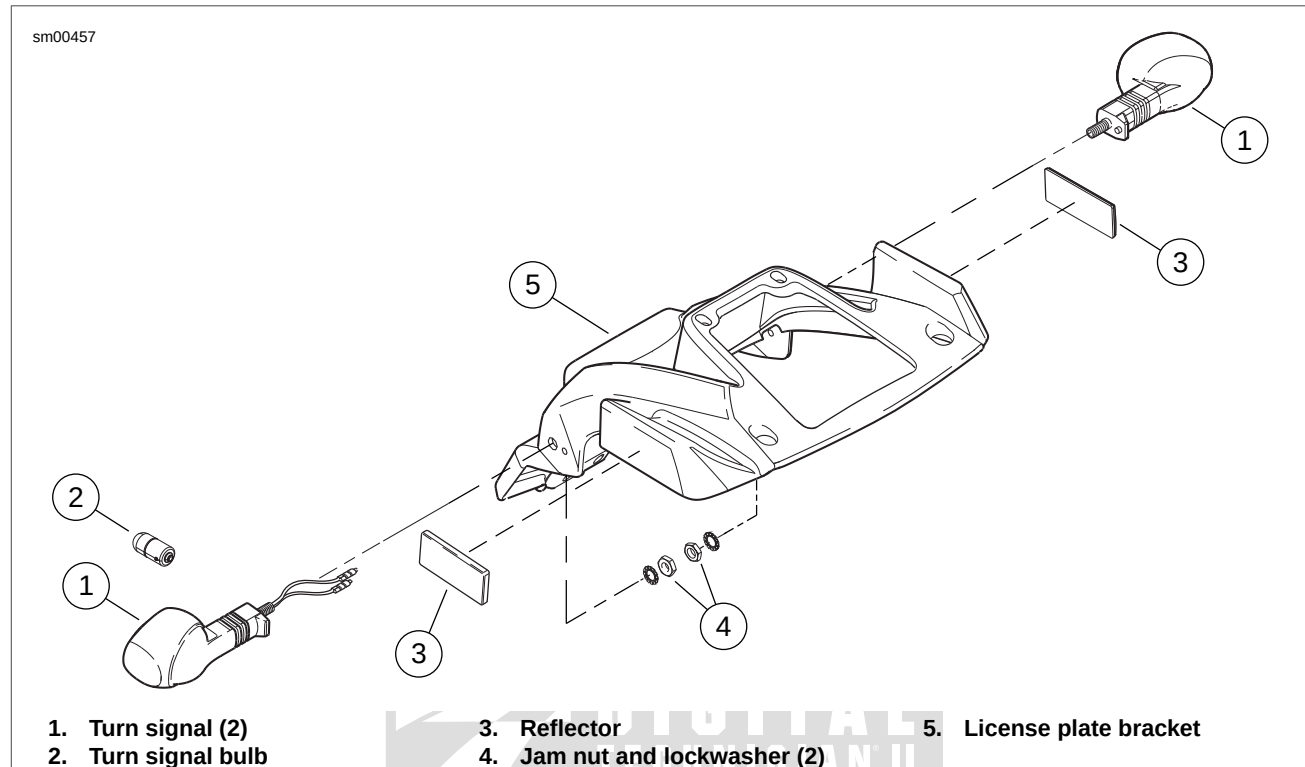

Figure 7-53. Rear Turn Signals: Ulysses
- See Figure 7-53. Remove jam nut and lockwasher (4).
- Remove turn signal from license plate bracket (5).
- See Figure 7-53. Insert bullet connectors through license plate bracket.